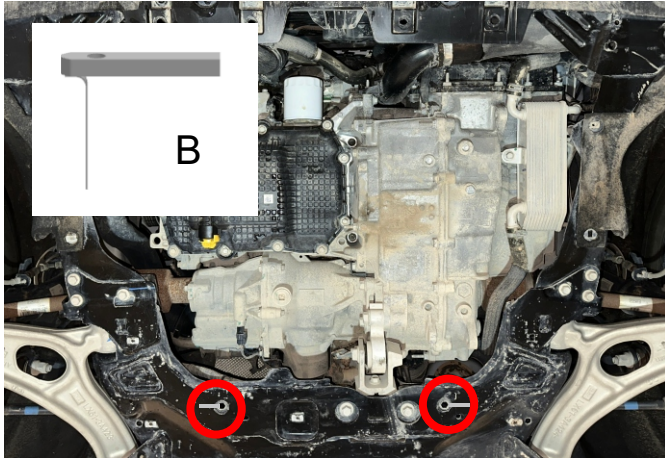

Fig. 1
1. Install M6 insert nuts with wire (item B) into pre-existing holes in subframe as shown in fig.1.